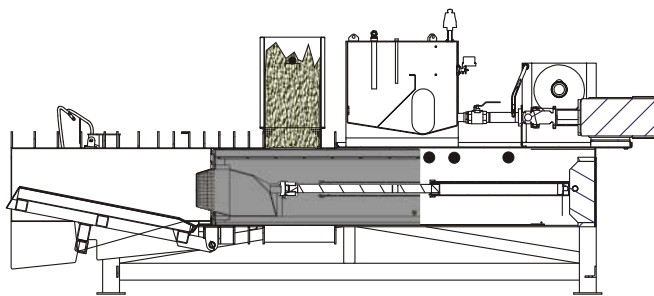

Figure 25 - Product Reaches Level Detector
2. **MATERIAL REACHES LEVEL DETECTOR** The level detector (see Level Detector Adjustments page 14) will send a signal to the DVC-10 program when PROX 1 has been activated by product being sensed for more than 1 second (see Figure 25). The plunger will retract according to PRODUCT DELAY pot #1 (see Potentiometer page 13 for adjustments). When the plunger activates PROX 4, the plunger speed is reduced.